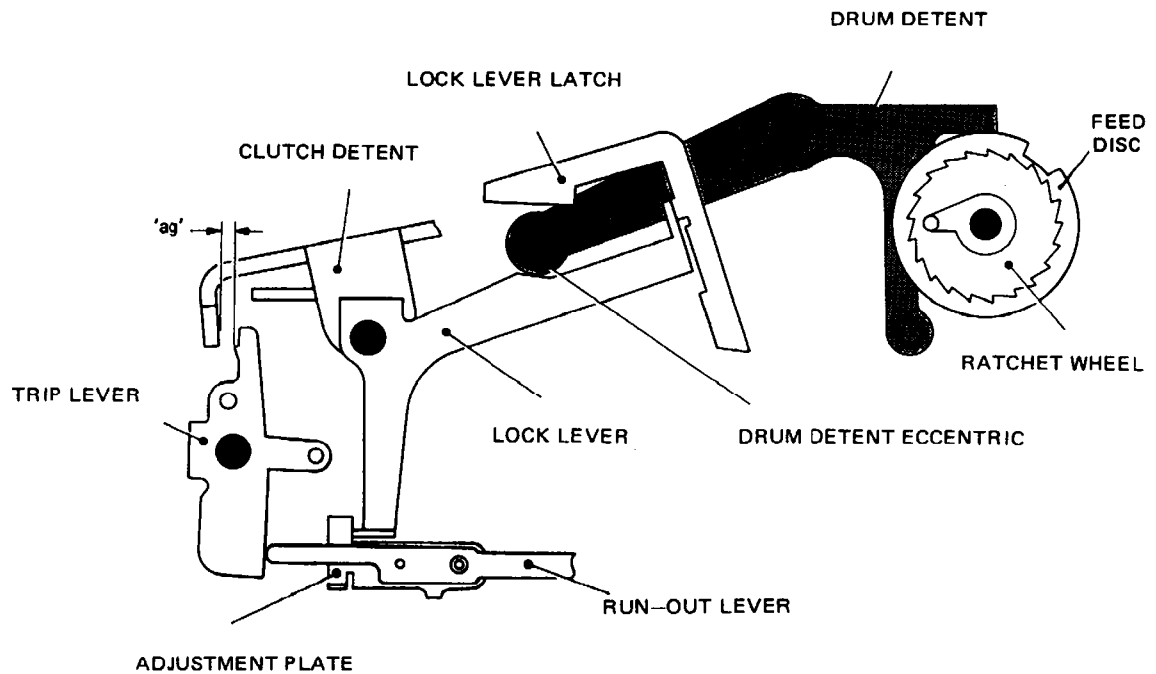

Fig. 4.33 RUN-OUT PUSH ROD MECHANISM (REAR VIEW)
- 36.1 Depress the HERE IS key and turn the ratchet wheel by hand away from the rest position, as shown in Fig. 4.33. Lift the lock lever latch so that it releases the lock lever, and allow the drum detent to rest on the periphery of the feed disc.
- 41.1 Depress the HERE IS key and turn the ratchet wheel, Fig. 4.33, by hand until the twentieth feed action has taken place. Check that the off/normal cam, Fig. 4.38, has not yet operated the off/normal switch.